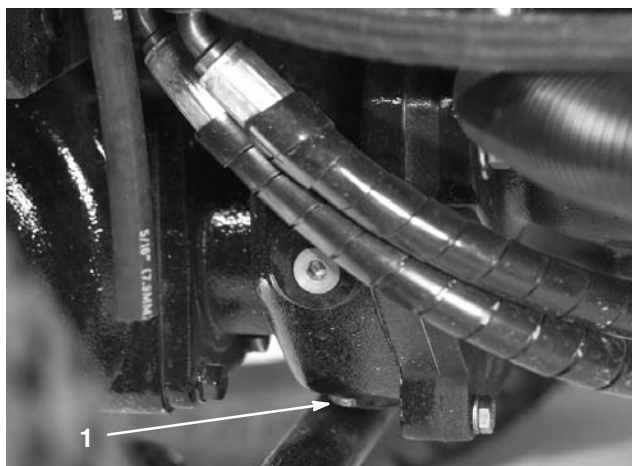

Figure 72
5. Clean the area around the drain plug on the bottom of the gear box (Fig. 72).